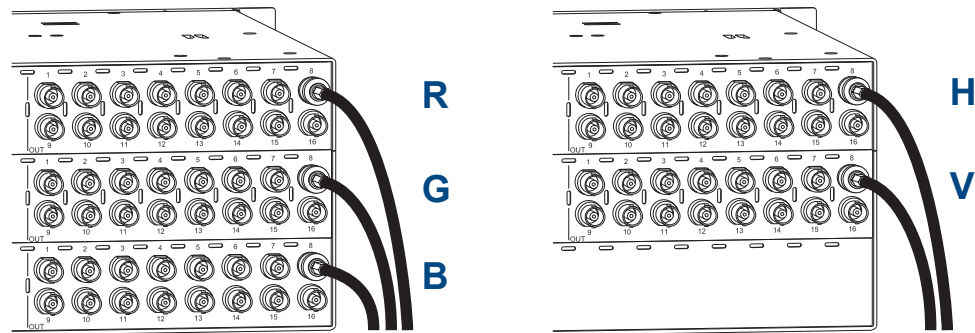

FIG. 13 Five BNC connectors are required for RGBHV signal
For RGBHV signals, you need to attach corresponding input and output connectors on both enclosures to route the entire signal. Three BNC connectors route the 500 MHz video signals on the enclosure with the control panel and two BNC connectors route the Hi-Z sync signals on the other enclosure. FIG. 13 below shows the 5 BNC cable connectors attached for routing the R, G, B, H, and V signals through Output 8. Follow the “AutoPatch Connector Guide” to ensure correct routing.
1. Fasten the cables onto the input and output BNC connectors (FIG. 13).